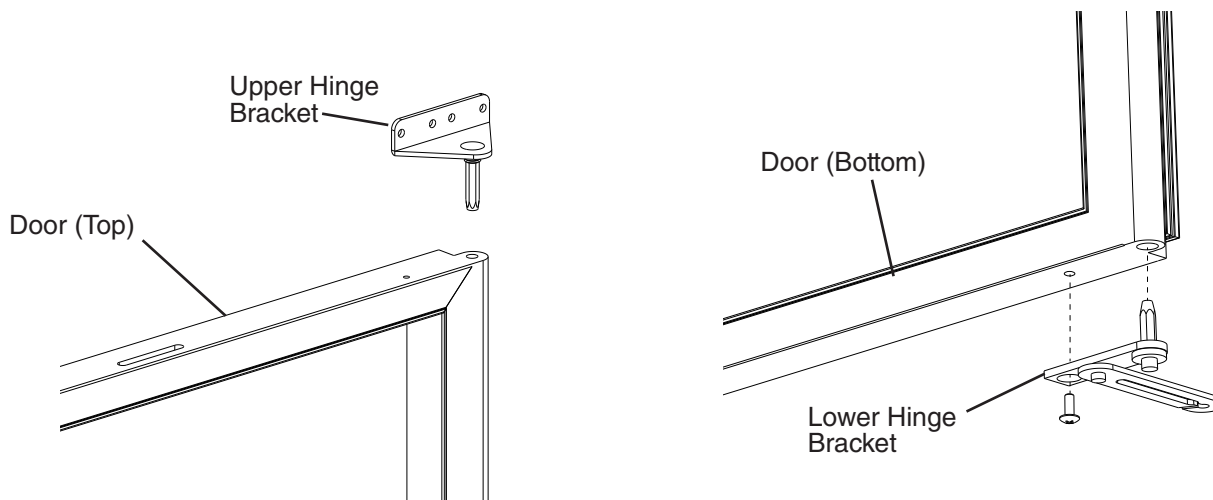

Fig. 46
- 14) Remove the upper and lower hinge brackets from the door. See Fig. 46.